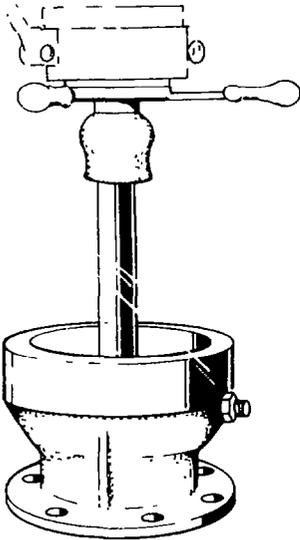

Fig. 275 — Removing Bevel Pinion
p. Press the bevel pinion from the housing using a hydraulic press and remove the bevel pinion spacers (see figs. 275 and 276).